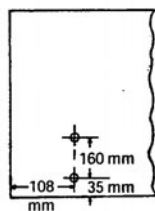

Fig. 2
- Drill two 10mm holes as detailed in fig 2 below. Make sure that the holes have clear space underneath the bench so you can tighten the fixings nuts.
- Put the head stock assembly (A) on the bench and secure with suitable 8mm bolts/washers/lock washers and nuts (not supplied). Tighten the bolts finger tight only at this stage. Make sure the washers/lock washers are on the nut end of the bolt.